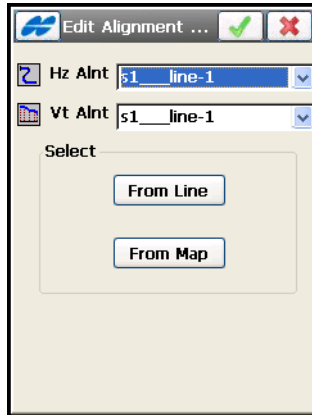

Figure 7-31. Edit String Alignments
6. Tap **Edit** to edit the selected pair of alignments or **Add** to create a new pair of alignments. The **Edit Alignment** screen displays (Figure 7-31 on page 7-24).